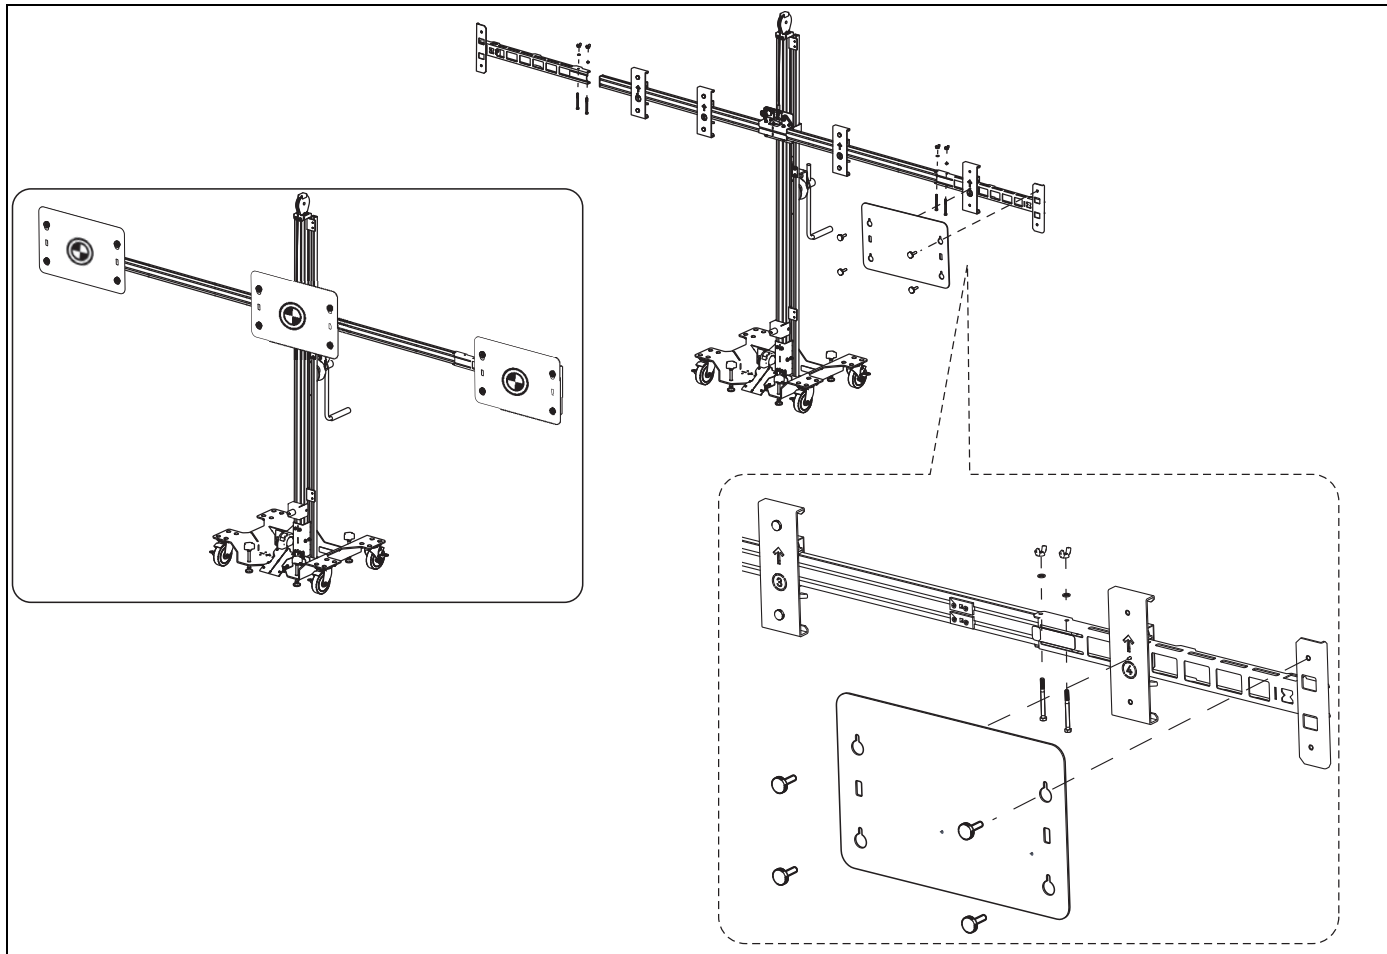

Figure 4-22
To install the extension arms, align the holes in each arm with matching holes on each end of the cross beam, then insert the bolts (2) and secure with wingnuts (Figure 4-22). Do not overtighten.
Figure 4-22 illustrates the installation of the extension arms, and a multi-target setup used on some models.